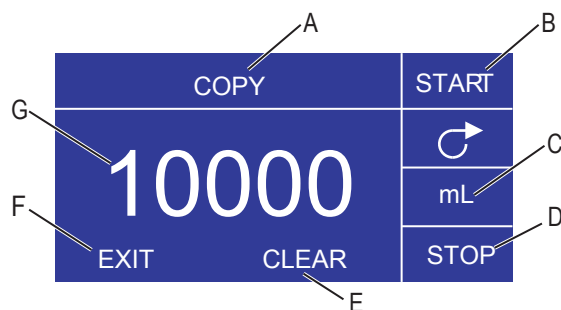

Figure 3-8. COPY Setting Screen
- C. **Copy Amount Screen:** See *Copy Setting Screen*, Figure 3-8.